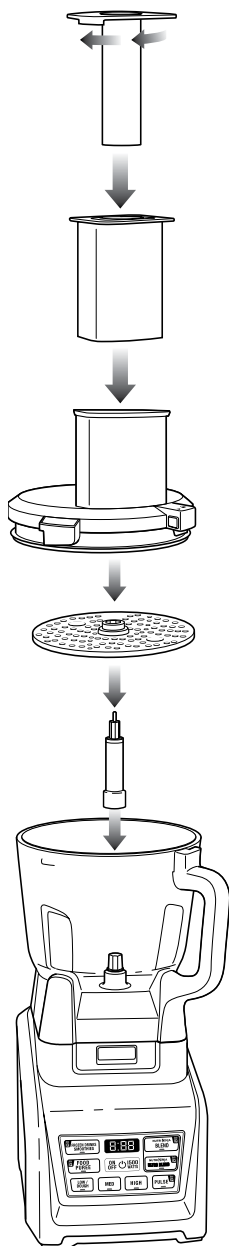

Fig. 1
- 2 Place the motor base on a clean, dry, level surface such as a counter or tabletop. Press down on the motor base to make sure that the suction cups adhere to the counter or tabletop. **(Fig. 1)**